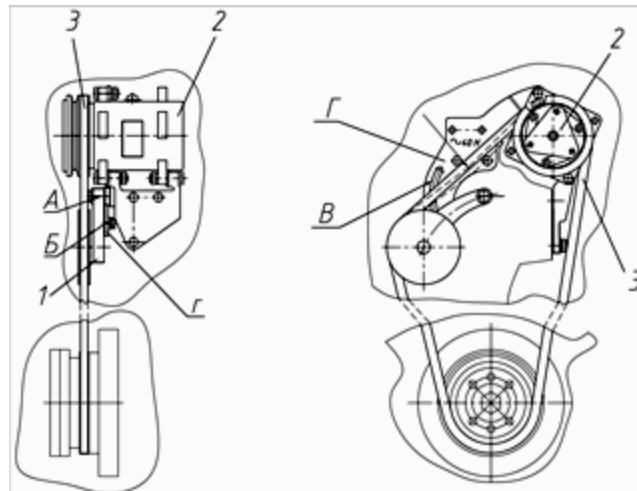

Figure 8.11
**Procedure 9. Checking/Adjusting the Tension of the Air-Conditioner Com-pressor Driving Belt (fig 8.11)**